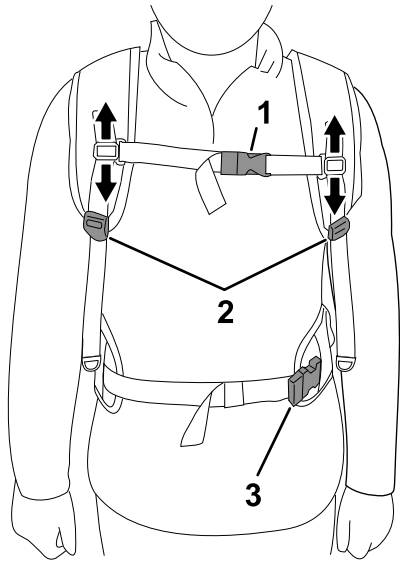

Figure 4
1. Put on the shoulder straps, and loosely connect the hip belt buckle and the sternum strap buckle (Figure 4).